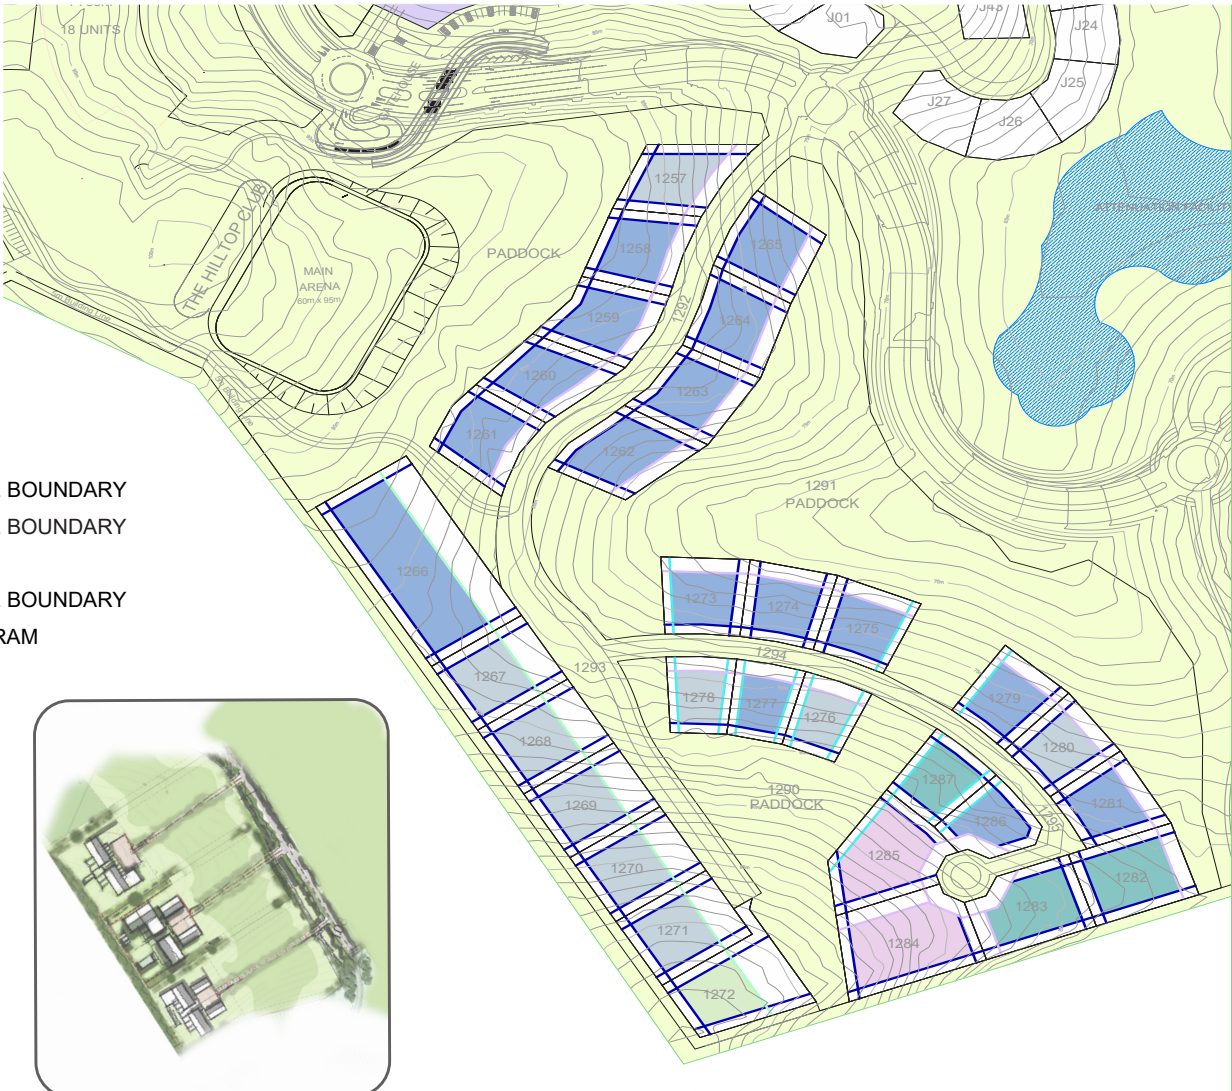

Figure 3: SITE CONSTRAINTS DIAGRAM
- a. Zones of disturbance are illustrated within the Site Constraints Diagrams, (Figure 3).
- a. Building lines are illustrated within the site constraints diagram (Figure 3).
- b. No structures may be built outside of building lines as set out within the Site Constraints Diagram (Figure 3).